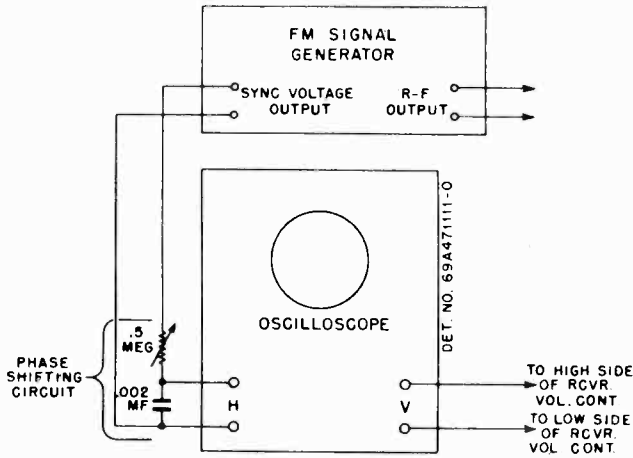
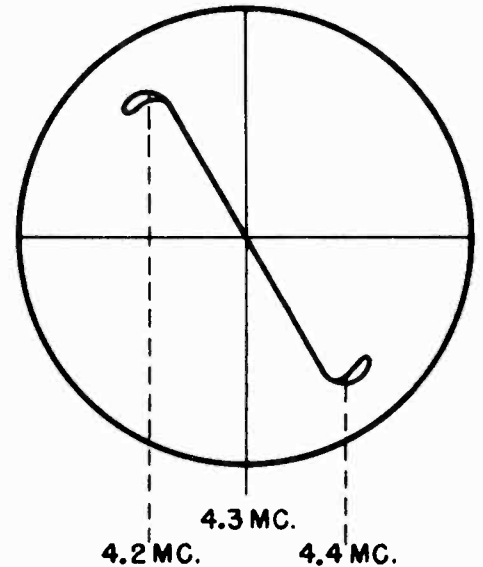

FIGURE 4. SIGNAL GENERATOR & OSCILLOSCOPE HOOK-UP
FIGURE 5. OSCILLOSCOPE PATTERN
3.	(A) Ratio Detector <ol style="list-style-type: none"> <li>1. Connect the input terminals of the oscilloscope vertical amplifier to the high side of the receiver volume control and common negative.</li> <li>2. Connect the FM generator synchronizing voltage output terminals to a phase shifting network, consisting of a variable 1/2 megohm resistor in series with a .002 mf capacitor. The input to the oscilloscope horizontal amplifier is connected across the .002 mf capacitor. See Figure 4. (This phase shifting network may not work with every oscilloscope. Different values of R &amp; C may be required).</li> <li>3. Apply an FM 4.3 Mc signal (125 Kc deviation) through a .001 mf capacitor to the control grid (pin #1) of tube V-4 (12FA6) in the third FM IF Amplifier stage.</li> <li>4. Back out ratio detector transformer secondary core (7) several turns and then adjust ratio detector transformer primary (8) for maximum amplitude. The phase shifting network resistor is adjusted to give only one trace.</li> <li>5. Adjust ratio detector transformer secondary (7) until a symmetrical pattern is obtained, with peaks occurring at about 100 Kc above and below 4.3 Mc and is substantially linear between peaks. The trace should pass through the intersection of the vertical and horizontal axis. The phase shifting network should be adjusted to give only a single pattern at all times. See Figure 5. It will be necessary to go over ratio detector transformer primary (8) and secondary (7) adjustments several times before a pattern of maximum amplitude and correct symmetry is obtained.</li> </ol>